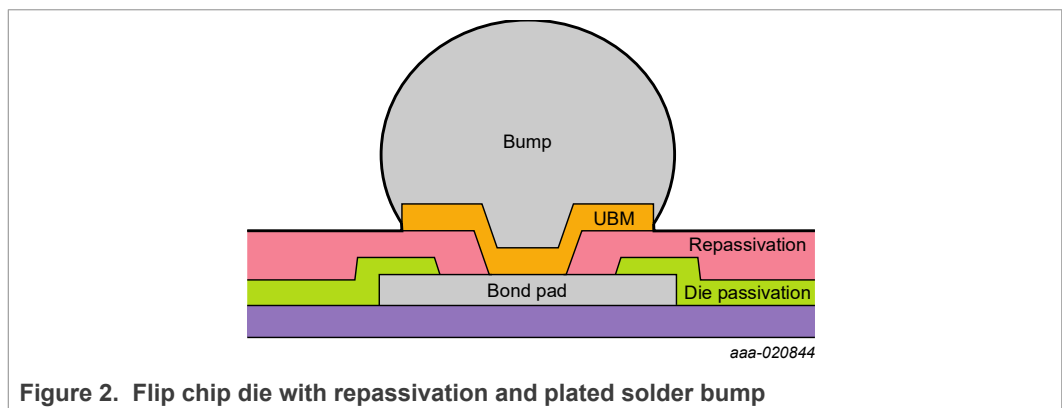

Figure 2. Flip chip die with repassivation and plated solder bump
**Repassivation:** A plated solder bump is placed on top of the pad with a repassivation layer between the Under Bump Metallization (UBM) and the passivation of the die. The repassivation layer prevents cracking of the die passivation during temperature cycling. The UBM provides adhesion, acts as barrier layer, and ensures solder wetting. Figure 2 shows an example of such construction with plated solder bump.